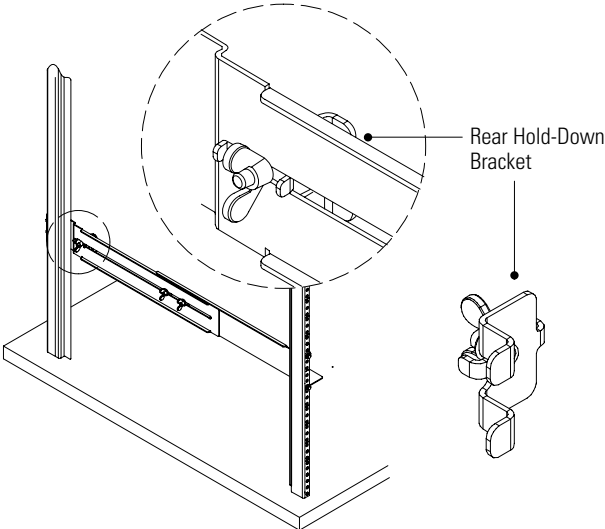

Figure 8. Securing the Back of the EBM
- 12. Attach the rear hold-down brackets to the rail and slide the brackets into the slots on the EBM rear panel (see Figure 8).